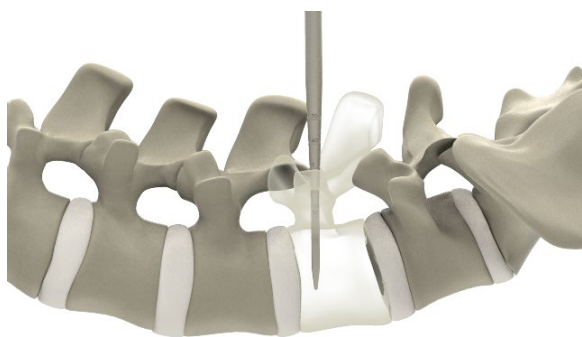

Fig. 1
- Enlarge the pathway utilizing a pedicle probe (Fig. 1).